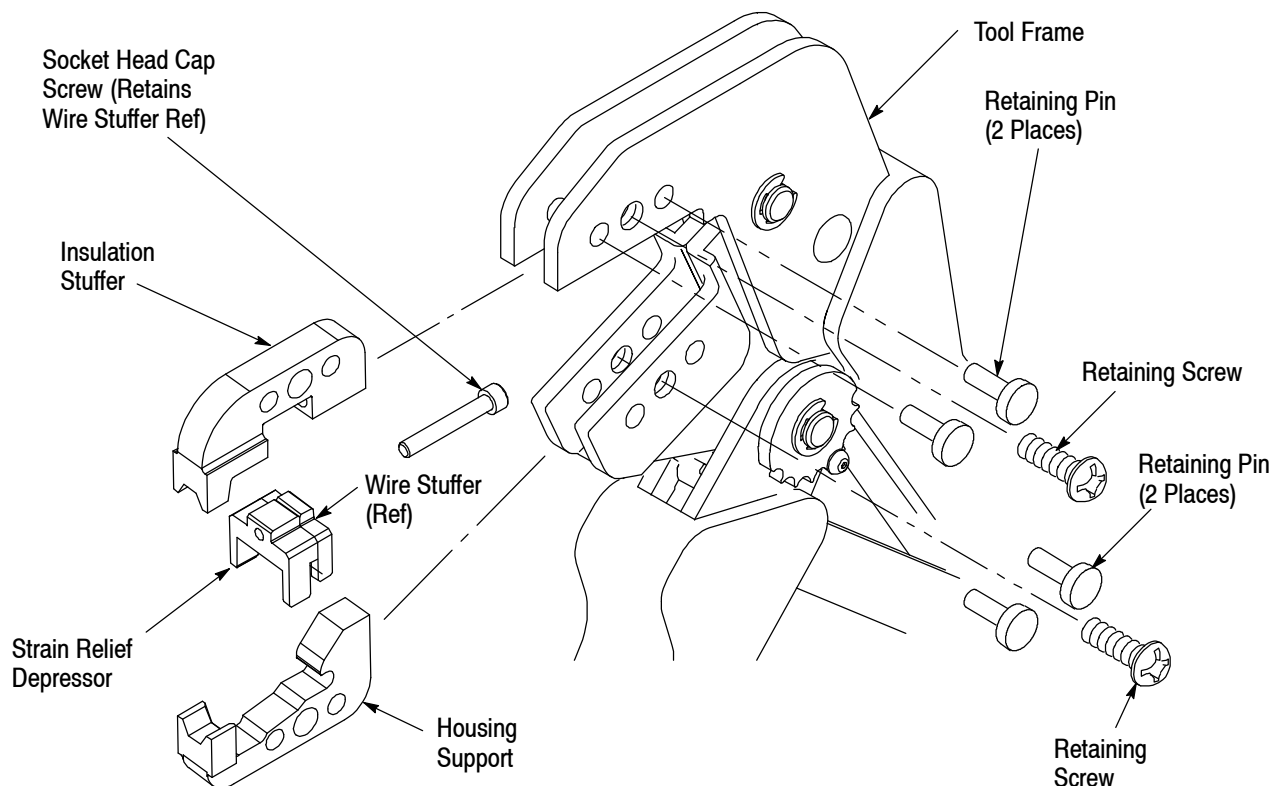

Figure 2
2. Orient the insulation stuffer as shown in Figure 2, and insert it into the stationary jaw of the tool frame. Align the holes with the associated holes in the tool frame. Insert the short retaining pins and short retaining screw into the holes in the tool frame. Tighten the screw.
3. Orient the housing support as shown in Figure 2, and insert it into the stationary jaw of the tool frame. Align the holes with the associated holes in the tool frame. Insert the short retaining pins and short retaining screw into the holes in the tool frame. Tighten the screw.
1. Install the wire stuffer onto the insulation stuffer using the 4-40 UNC $\times$.621 in. socket head cap screw included with the die assembly. Refer to Figure 2.